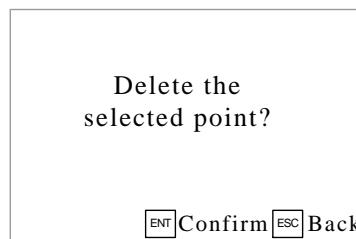

Fig. 3-36: Point Deleting Interface
1. If need to delete point in one teaching file, it can select deleted point at the “Points List Interface”, and then press “CLR” to delete. Before deleting, the system will hint delete or not (Fig. 3-36). Once deleted, it cannot be recovered.